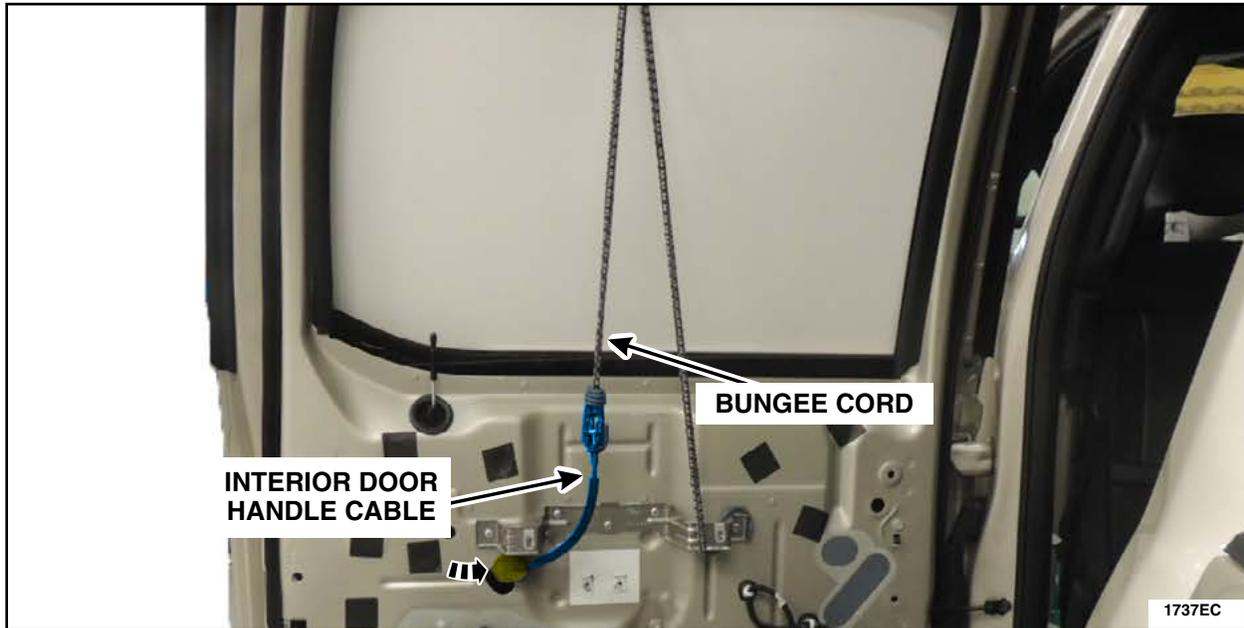

FIGURE 54
28. Using a bungee cord or other suitable device, secure the interior door handle release cable to the door in an upright position to allow the lubricant time to run down into the cable until the interior door handle release cable is reinstalled later in this procedure. See Figure 54.